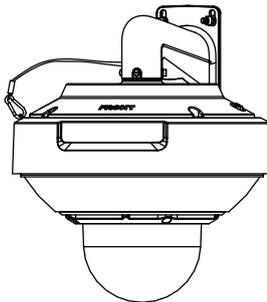

Figure 1-15 Fix the PanoVu Camera
8. Fix the PanoVu camera with the head cover by fixing screws of the head cover and bracket, as shown in Figure 1-15.